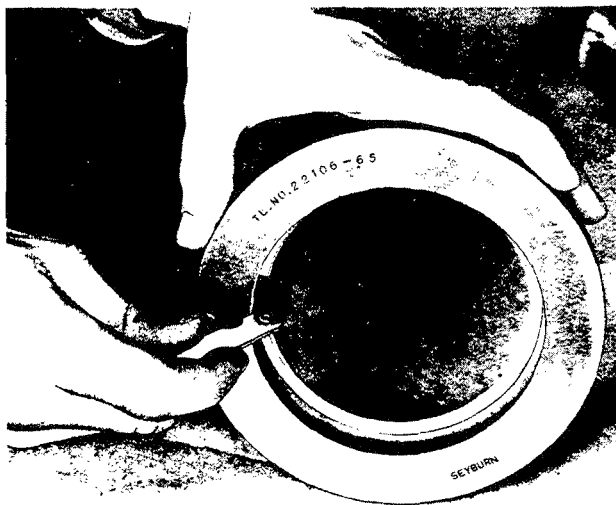

FIGURE 20. INSPECTING PISTON RING GAP.
a. Place each ring, in turn, either in a standard 5.000 inch gauge ring (or oversize, as required) or place each ring squarely in the lower end of the cylinder. Check the ring gap with a thickness gauge, as shown in Figure 20. This is to assure use of correct standard or oversize rings. Identification marks on rings should correspond to gauge diameters, if correctly marked, and gaps should be within limits specified in Section XV.